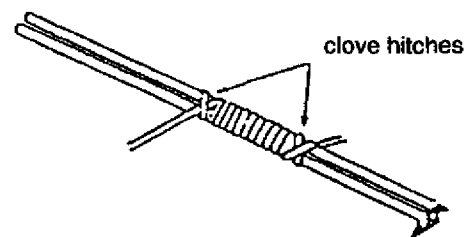

Fig. 7-4
(3) Setup
- d. To be able to push and hold the ladder away from the building at the load-bearing point 2-3 rungs from the top, cross two pike poles and tie them to the side rails and rungs of the ladder with a clove hitch and single hitch. (Fig. 7-4, 7-5)